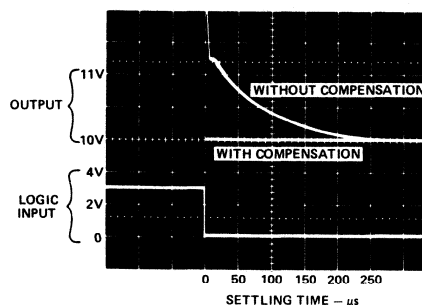
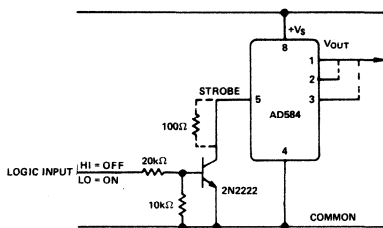

Figure 8b. Output Settling Characteristic
Figure 11. Use of the Strobe Terminal
and represents the true turn-on waveform after an extended period with the supplies off. The figure shows both the coarse and fine transient characteristics of the device; the total settling time to within  $\pm 1\text{ millivolt}$  is about  $180\mu\text{s}$ , and there is no long thermal tail appearing after the point. Figure 8B demonstrates the settling characteristics using the strobe input (see Figure 11). Without compensation, the output of the AD584 typically settles within  $225\mu\text{s}$ . With a  $90\text{pF}$  capacitor across pins (5) and (3), critical damping is approximated, as shown in Figure 8B, with settling times  $< 5\mu\text{s}$ .
Figure 11 illustrates the strobe connection. A simple NPN switch can be used to translate a TTL logic signal into a strobe of the output. The AD584 operates normally when there is no current drawn from pin 5. Bringing this terminal low, to less than 200mV, will allow the output voltage to go to zero. In this mode the AD584 should not be required to source or sink current (unless a 0.7V residual output is permissible). If the AD584 is required to sink a transient current while strobed off, the strobe terminal input current should be limited by a 100Ω resistor as shown in Figure 11.